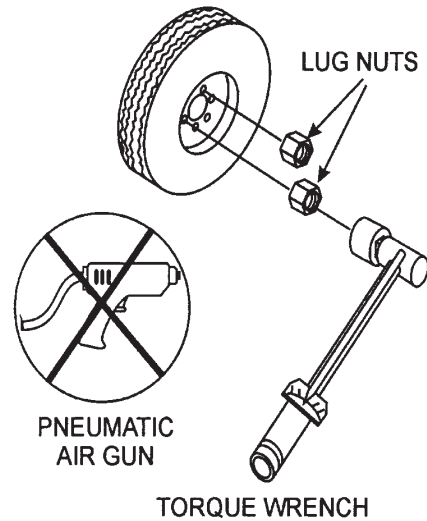

Figure 62. Wheel Lug Nuts Tightening Sequence
12. **Lug Nuts** — Used to secure the wheel to the wheel hub. Always use a torque wrench to tighten down the lug nuts. See Table 18 and Figure 62 for lug nut tightening and sequence.
2. Torque all lug nuts in sequence (see Figure 62). **DO NOT** torque the wheel lug nuts all the way down. Tighten each lug nut in 3 separate passes as defined by Table 18.